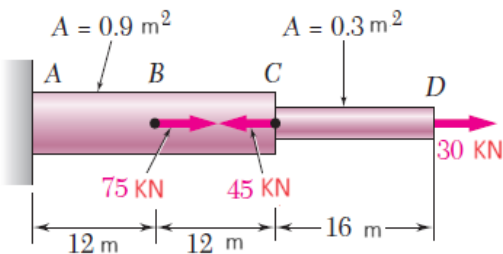

Fig 2
- b. Determine the deformation of the steel rod shown in Fig. 2. under the given loads ( $E = 29 \times 10^6 \text{ Pa}$ ). [10]